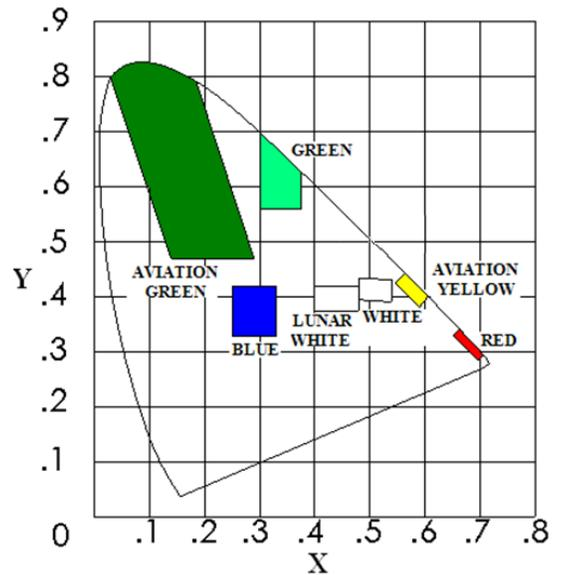

FIGURE 16 - CIE chromaticity diagram
- 1/ The color expressed as “x” and “y” coordinates on the standard 1931 CIE chromaticity diagram. Illuminated colors, measured as specified herein, shall be within the limits bounded by the coordinates listed for each color. See figure 16.